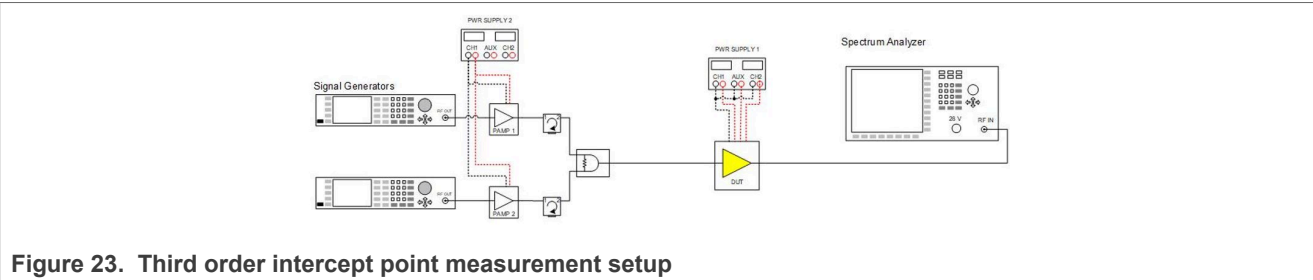

Figure 23. Third order intercept point measurement setup
IP_{3o} is being measured using a setup like given in Figure 23.
5. Nonlinear distortion measurements IP3 can be performed with a set-up like is depicted in Figure 23. The following settings are recommended to perform the IP3 evaluation.